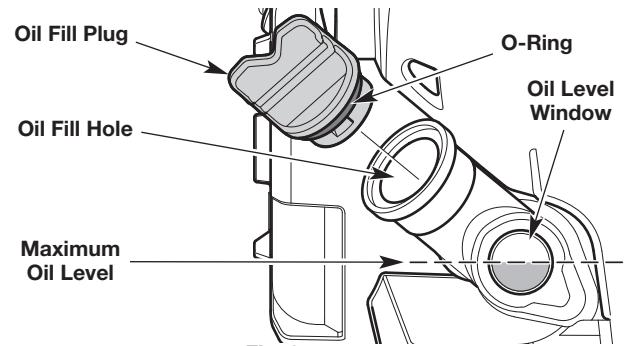

Fig. 35
3. Look into the oil level window; use a flashlight if necessary. **The oil level should fill the window approximately halfway** (Fig. 35). If the oil level is too low, add oil. Refer to *Adding Oil*.
1. Clean the area around the oil fill plug (Fig. 35) to prevent debris from entering the oil fill hole.
3. Add oil to the oil fill hole until the oil level is approximately halfway up the oil level window (Fig. 35).
5. Make sure the O-ring is in place on the oil fill plug (Fig. 35).
7. Make sure the O-ring is in place on the oil fill plug (Fig. 35).